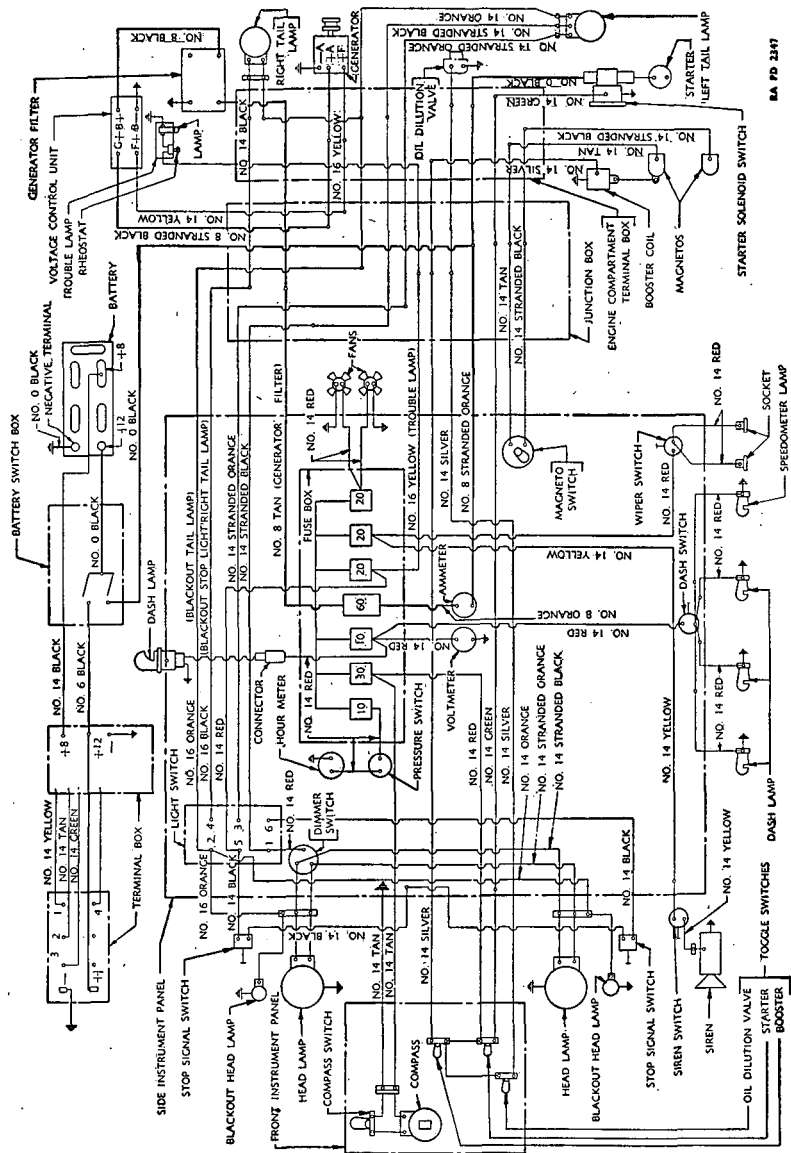

FIGURE 98.—Wiring diagram.
118. Generator.—The engine of the vehicle drives a 12-volt direct current generator. Under normal operation of the vehicle, the generator supplies enough current to operate all of the electrical equipment. Consult the wiring diagram (fig. 98). For replacement and other details of this unit see paragraph 57.
(2) *Replacement.*—If the ammeter is defective, use the following procedure for replacement (refer to fig. 96 and wiring diagram, fig. 98):
(2) *Replacement* (refer to fig. 96 and wiring diagram, fig. 98).—
terminals, since one small drop of solder falling into the switch may cause a short circuit. If there is not sufficient slack in the wires leading to the magneto switch from the junction box, install new wires. Consult the wiring diagram (fig. 98).
3. Remove and tag wires from switch (see wiring diagram, fig. 98).
(2) *Replacement.*—The members near the terminal screws in figure 99 correspond with the numbers in wiring diagram figure 98. Use the following procedure in replacing the lighting switch:
f. Two position push-pull switches.—(1) Operation.—The service headlight dimmer, dash, wiper, and sponson gun relay switches are of the two position push-pull type. The first three are located on the side instrument panel. The sponson gun relay switch, mounted on the sponson gun relay box, is accessible to the driver. The sponson gun relay box is mounted on the side wall of the fighting compartment. Pulling the switch knob out operates the switch. Pushing the knob in makes the switch inoperative.
(2) *Replacement* (see figs. 8 and 96 and wiring diagram, fig. 98).—Use the following procedure in replacing defective push-pull switches:
h. Stop signal switch (fig. 98).—(1) *Operation.*—Two stop signal switches, connected in series, are used to complete the electrical circuit for operation of the service and blackout stoplights. Each steering lever operates one switch through a linkage. Since the switches are in series, both steering levers must be pulled back, or the brake bands contracted on the drums, before the circuit is completed and the stoplights function. These switches are mounted on the transmission case on either side of the differential.